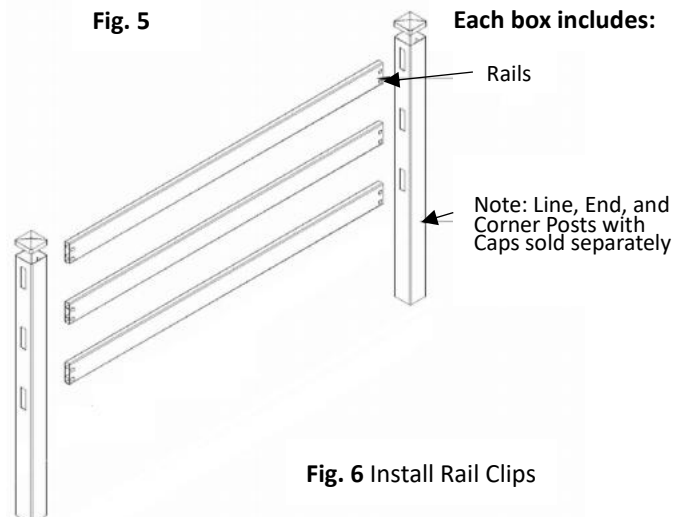

Fig. 6 Install Rail Clips
- Install Rails: Insert bottom rail into routed post, left side first, as far as it will go, then slide right side of rail into the other post, fully engaging the clip. Work your way up, repeating this step, until all rails in each section are installed. (Fig.6)